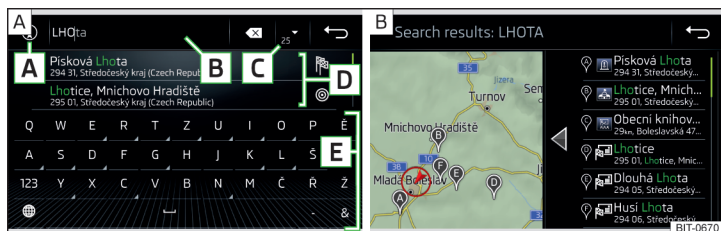
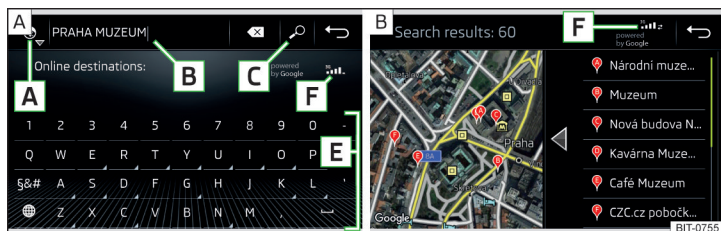

Fig. 199 Destination search: Main menu / list of visited destinations
Fig. 200 Find destination online: Main menu / list of visited destinations
- The function surface » Fig. 199 → .
- To display the visited destinations, the function surface ▾ » Fig. 199.
- The function surface » Fig. 200 → .
- To display the visited destinations, the function surface ⌕ » Fig. 200.
Description of the functional surfaces » Fig. 199 or. » Fig. 200
- ▾ - View a list of visited locations corresponding to the entered characters » Fig. 199 - B
- ⌕ - View a list of locations visited online, corresponding to the entered characters » Fig. 200 - B
- **Find** - Destination / POI search » Fig. 199